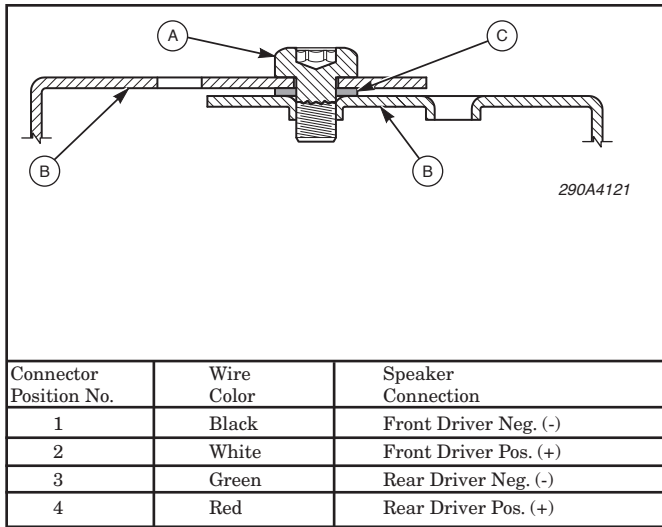

Figure 4.
4. See figure 4. Connect the cable from the amplifier to the matching connector on the speaker.